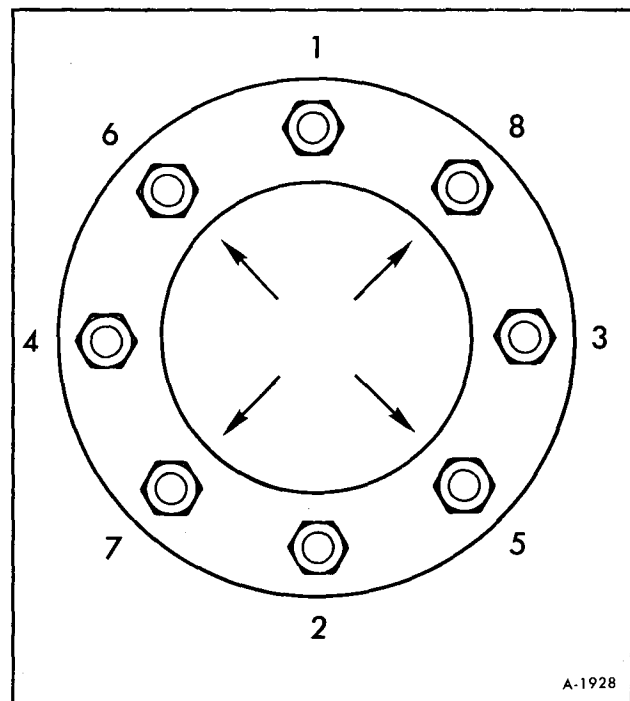

Figure 2—Wheel Stud Tightening Sequence
When vehicle is new or after wheels have been replaced, check wheel stud nuts at 500 miles and after every wheel removal thereafter. Nuts should be tightened to 250 foot-pounds torque in sequence shown in Figure 2.
1. Install all nuts loosely, then finger-tighten only the nuts marked by arrows (figure 2).